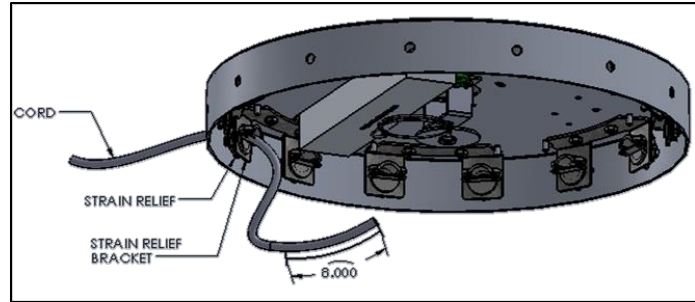

FIG. 13 -CORD INSTALLATION WITH BRACKET
4. Hang the fixture cord into the SWAG HOOK and adjust the desired height. Run the cord back to the CANOPY and measure 8" past the STRAIN RELIEF BRACKETS and make a mark. Cut the CORD so that a minimum of 8" of CORD is left after the STRAIN RELIEF as shown in FIG. 13.